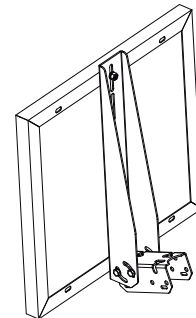

figure 1
**Step2.** For pole mounting, use U bolts or steel clamps to fix the PV module and mount assembly to the pole. See figure 1. The U-Bolts and/or steel clamps are not included in the kit.